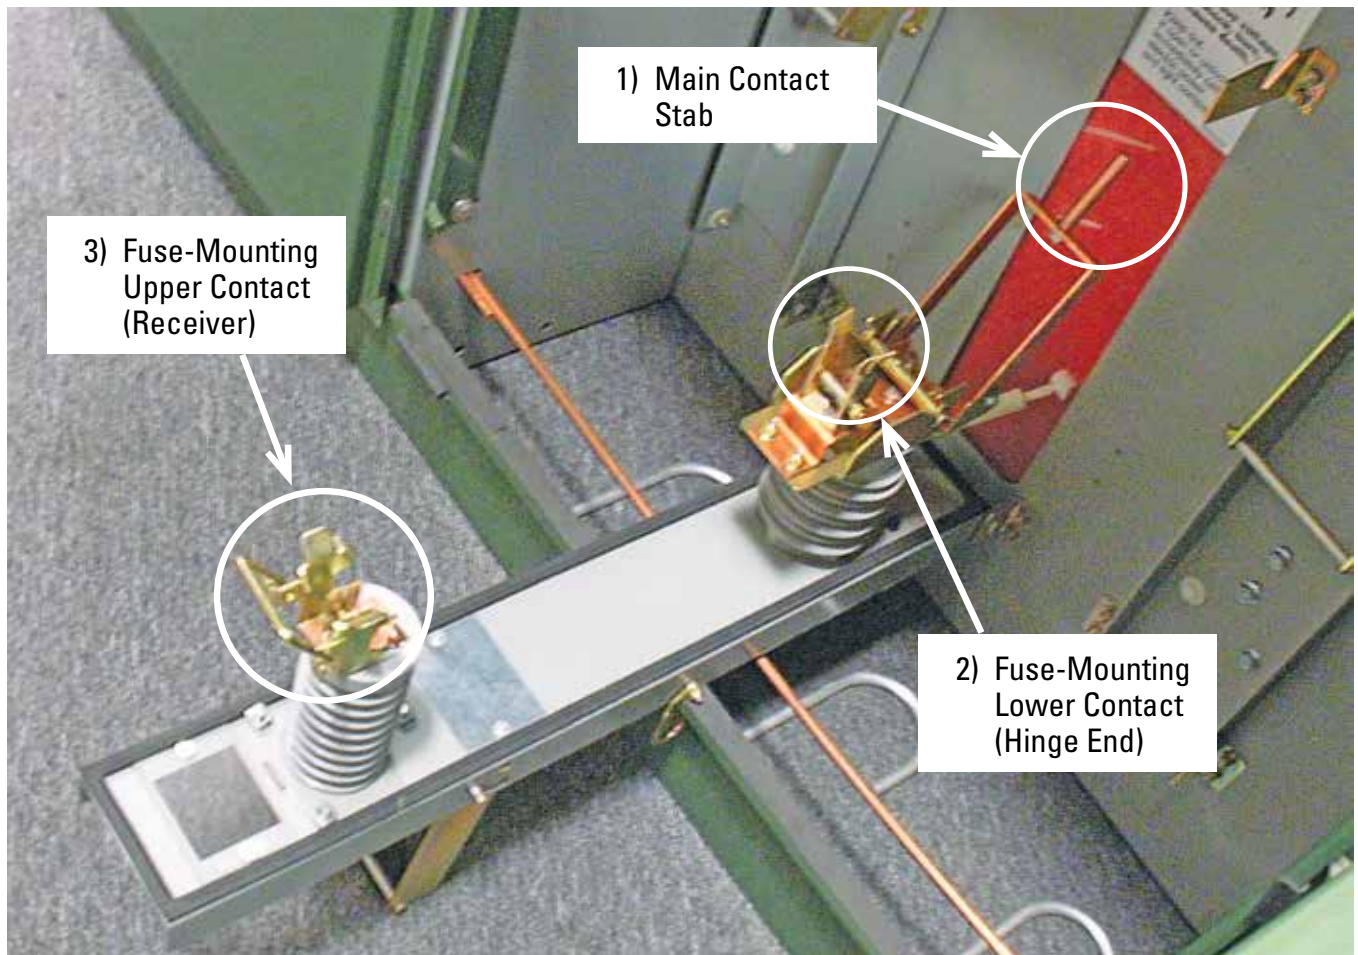

Figure 1. Lubrication points for electrical contacts on PSE fuse panel.
- a. On the fuse panel main contact stab. See Figure 1.
- b. On the contact interface at the fuse-mounting stationary main contact. See Figure 1.